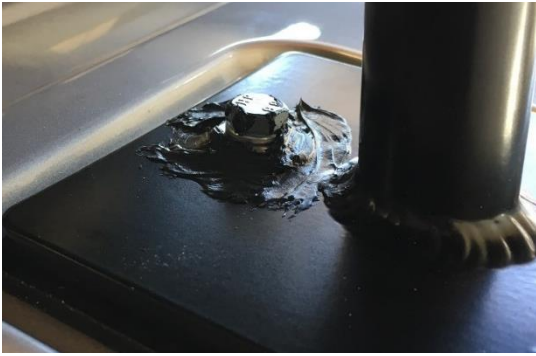

Figure 17: Silicone Sealant Applied to the Mounting Hardware
- Apply a liberal amount of silicone sealant around the bolts at each mounting location as a final seal (Figure 17).